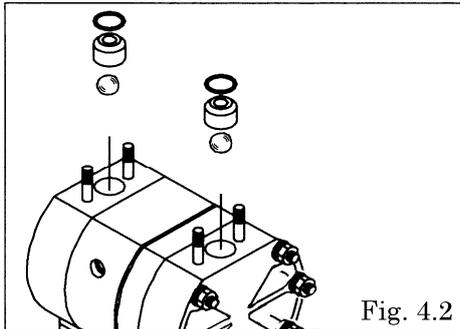

Fig. 4.2
- Remove the O-ring, valve guide, ball and valve seat. [Fig.4.2]